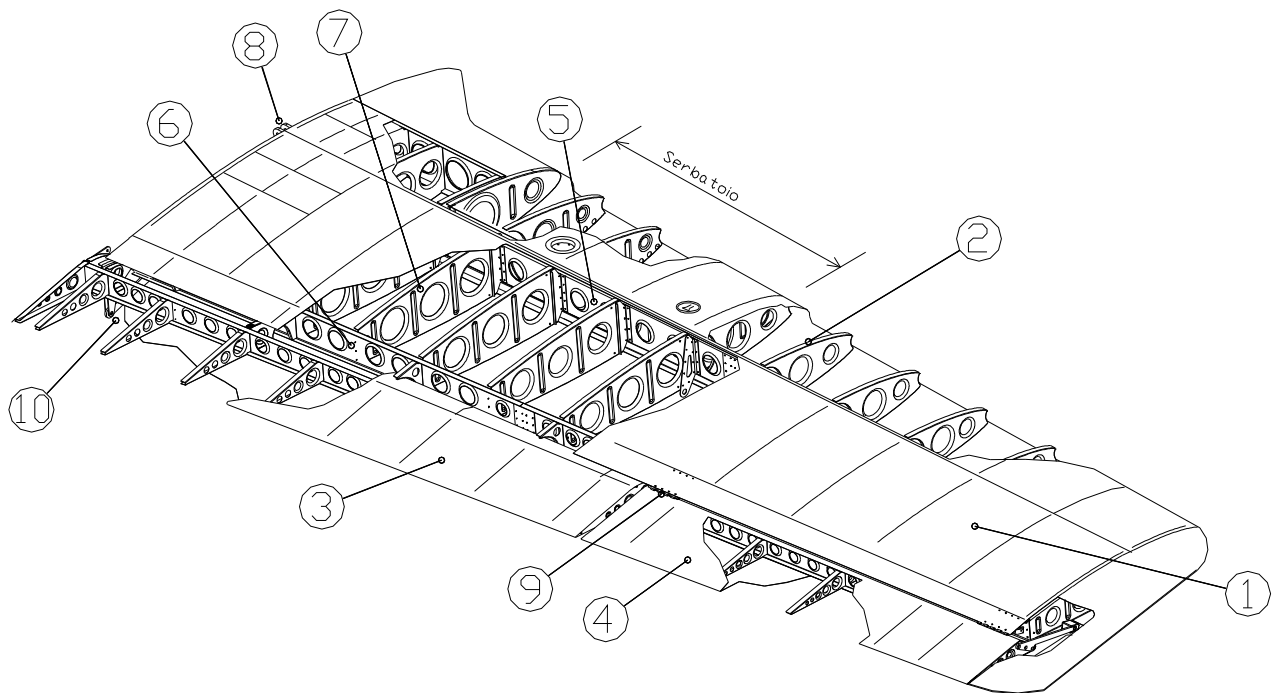

FIGURE C-2 *RIGHT WING STRUCTURE*
The torsion box, as shown in figure C-2 and with reference to numbers in parenthesis, consists of a main spar (5) and a fake spar (6) that make up its front and rear vertical walls; A series of ribs (7) and wrap-around panels complete the structure. Front and aft spars are complete with wing-to-fuselage attachment fittings (8). Aileron uses "piano-hinges" type MS 20001-4 for direct attachment of aileron spar to wing spar. Flap hinges are external to wing torsion box and feature SKF GE10E type ball bearings.